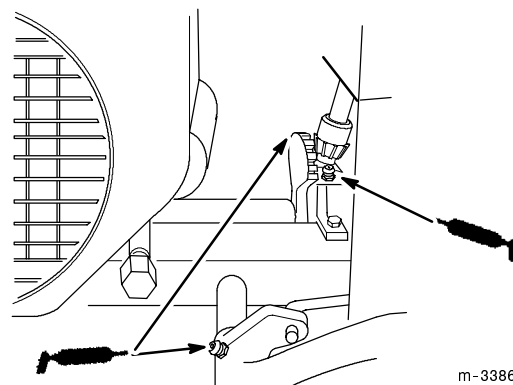

Figure 27
3. Lubricate the pedal(s) where it pivots on the mounting shaft, steering shaft and spread grease on steering sector teeth (Fig. 27).